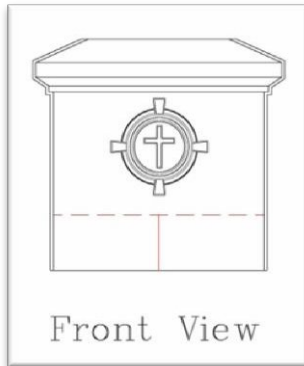

Figure D6: Marking center of base.
Step 4: Make a mark at the top of the pitch gauge. If you are using a homemade pitch gauge make the mark at the intersection between the two boards. Refer to figure D6 to see where to make the mark.
Step 5: Locate the center of the base at the mark you made in step 4. Refer to figure D6.
Step 6: Draw a line from the center of the base at the top of the pitch cut to the bottom of the base. Refer to figure D6.